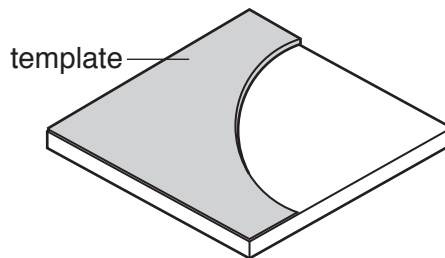

Fig. 12
- (b) Fig. 12 shows one end of the shelf unit with a template that will be used when drawing the shape onto the MDF.